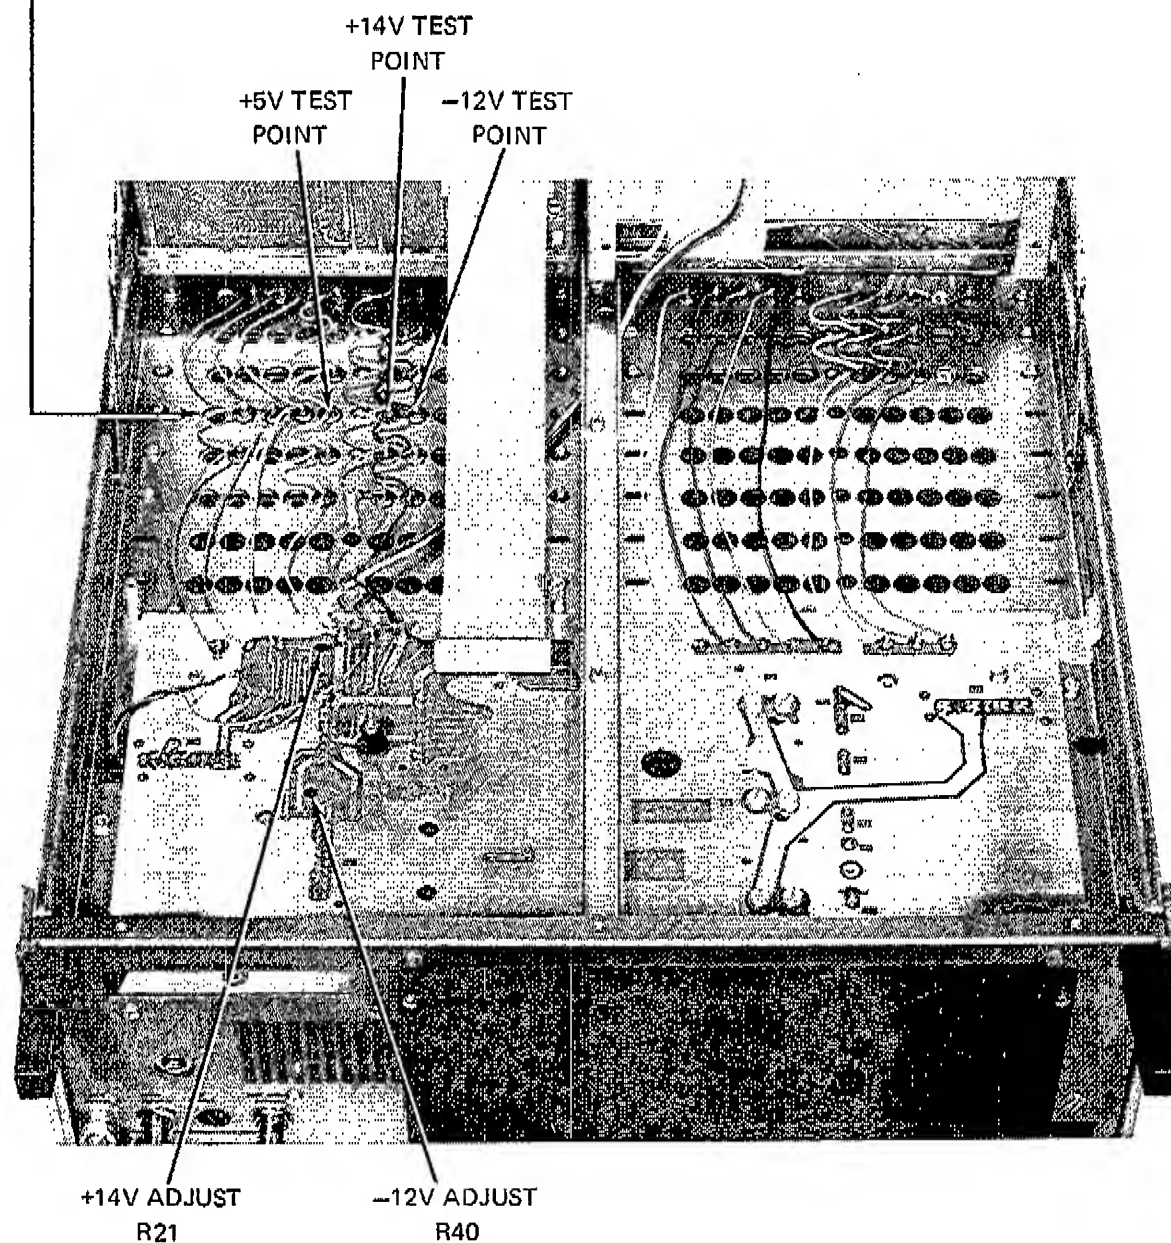

Figure 4-3. POWER SUPPLY TEST POINTS AND ADJUSTMENTS.
- c. Refer to Figure 4-3 and connect DVM between synthesizer chassis and –12V connector on the 10 MHz Step Loop module, 6160A-4107-1. DVM should indicate –12 Vdc \pm 3 mV. Adjust R40 if necessary (See Figure 4-3 for location).
- d. Refer to Figure 4-3 and connect DVM between chassis and +14V connector on 10 MHz Step Loop module, 6160A-4107-1. DVM should indicate +14 Vdc \pm 3 mV. Adjust R21 if necessary (See Figure 4-3 for location).
- e. Refer to Figure 4-3 and connect DVM between chassis and +5V connector on 10 MHz Step Loop module, 6160A-4107-1. Check DVM indication to be +5 Vdc \pm 15 mV.
- Refer to Figure 4-3 and connect DVM between synthesizer chassis and -12V connector on the 10 MHz Step Loop module, 6160A-4107-1. DVM should indicate -12 Vdc \pm 3 mV. Adjust R40 if necessary (See Figure 4-3 for location).
- Refer to Figure 4-3 and connect DVM between chassis and +14V connector on 10 MHz Step Loop module, 6160A-4107-1. DVM should indicate +14 Vdc \pm 3 mV. Adjust R21 if necessary (See Figure 4-3 for location).
- Refer to Figure 4-3 and connect DVM between chassis and +5V connector on 10 MHz Step Loop module, 6160A-4107-1. Check DVM indication to be +5 Vdc \pm 15 mV.